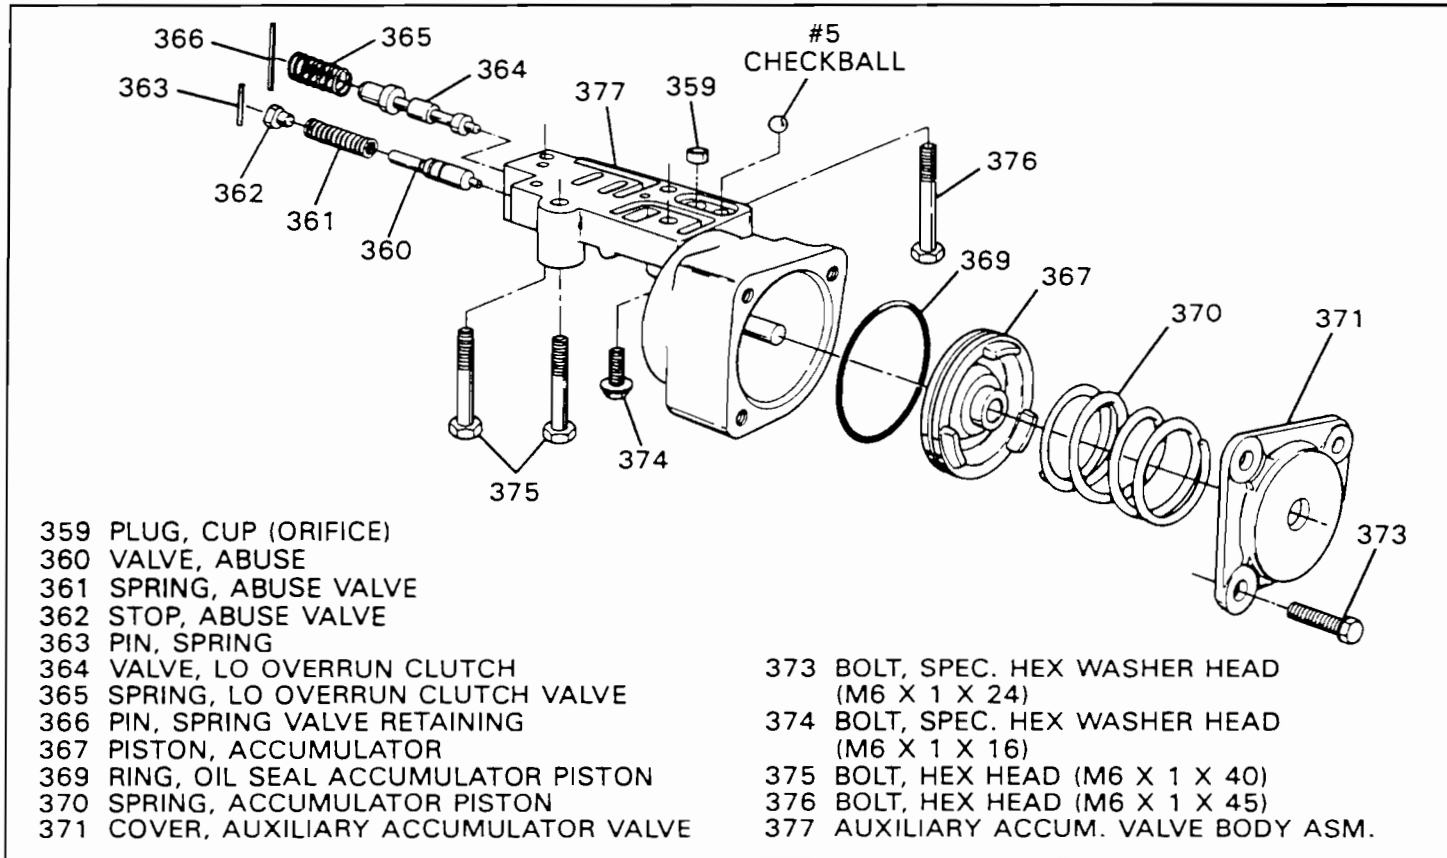

Figure 1
- CORRECTION: If you have the 1st design cover, braze shut the hole in the center of the cover and drill a 3/16" hole off center. (See Figure 1). The 2nd design cover with the oblong hole in the center is OK to use as is. If the pin has moved out the back side of the auxilary valve body, a simple "staking" process will prevent it from moving that direction again. The 2nd design auxilary valve body casting has a step machined in that area to prevent the pin from moving.